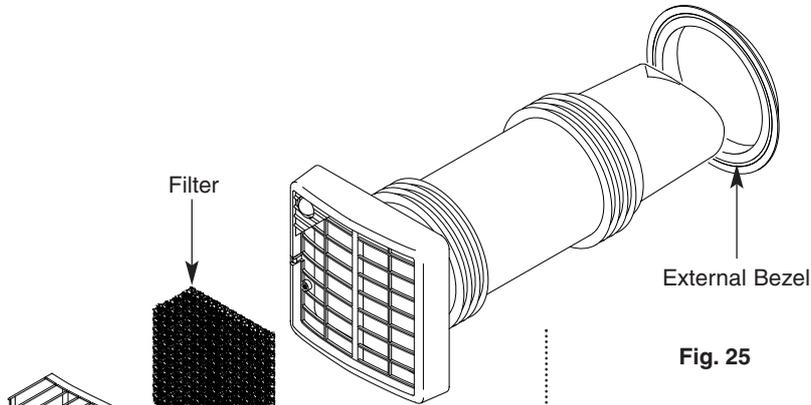

Fig. 25
2. Unclip the removable grille from the unit and remove filter (Fig. 25).